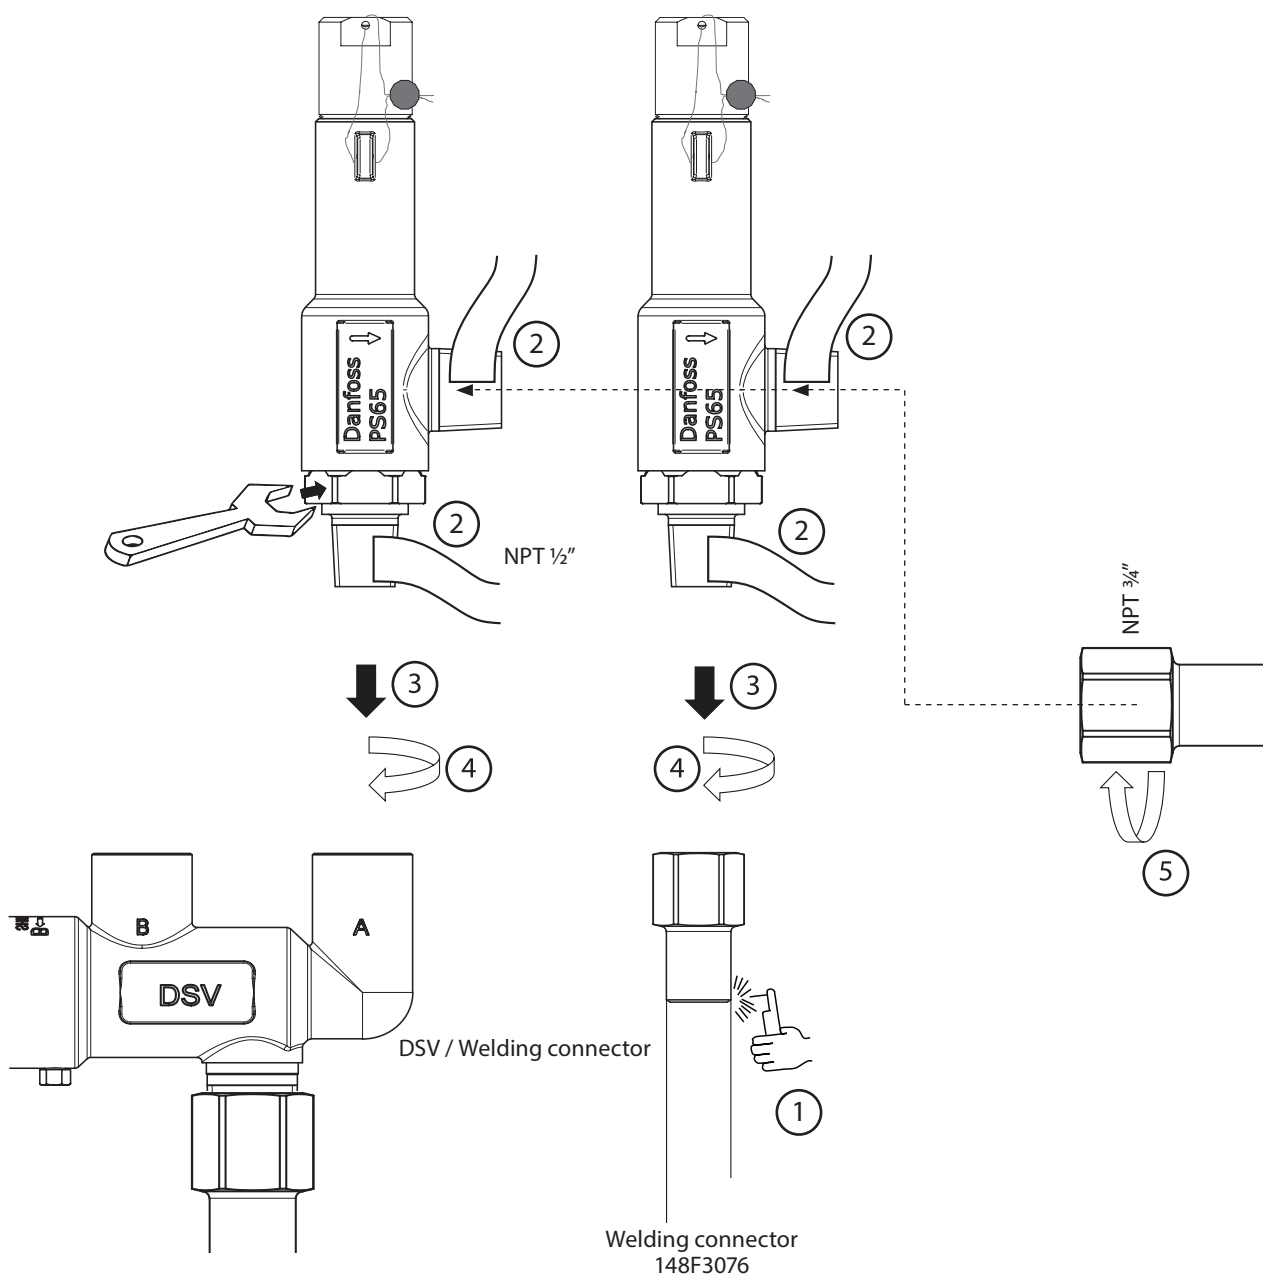

Fig. 6. SFA 10(H) NPT installation
#### Installation of SFA 10(H) NPT (see fig. 6)